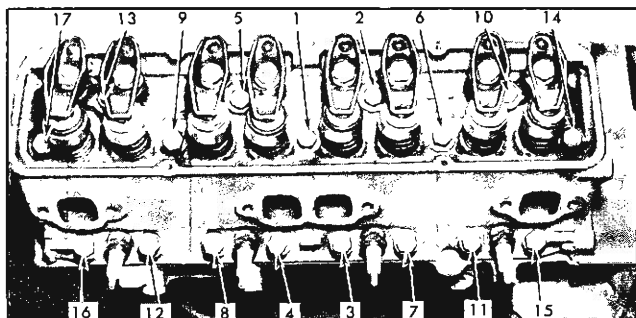

Fig. 6V—Cylinder Head Torque Sequence
**NOTE:** Two intermediate length bolts are used; one at number 17 position and one at number 14 position (fig. 6V).
5. Tighten each cylinder head bolt a little at a time in the sequence shown until the specified torque is reached (fig. 6V).